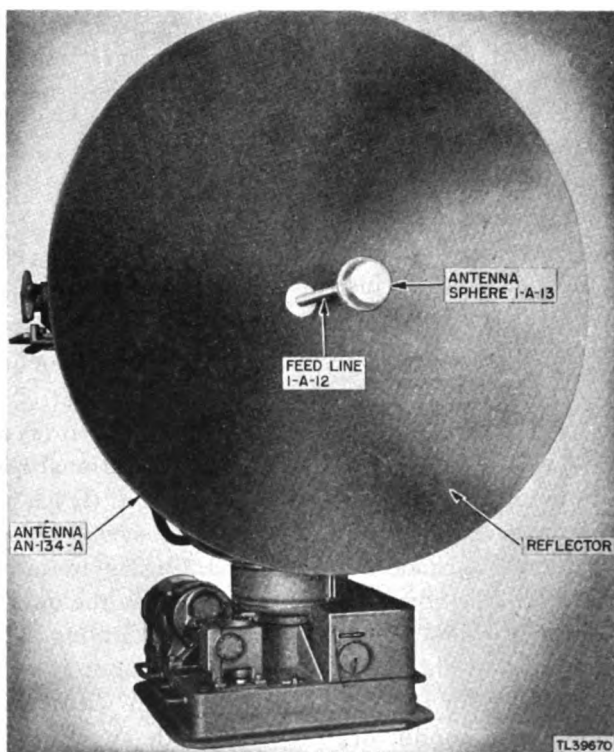
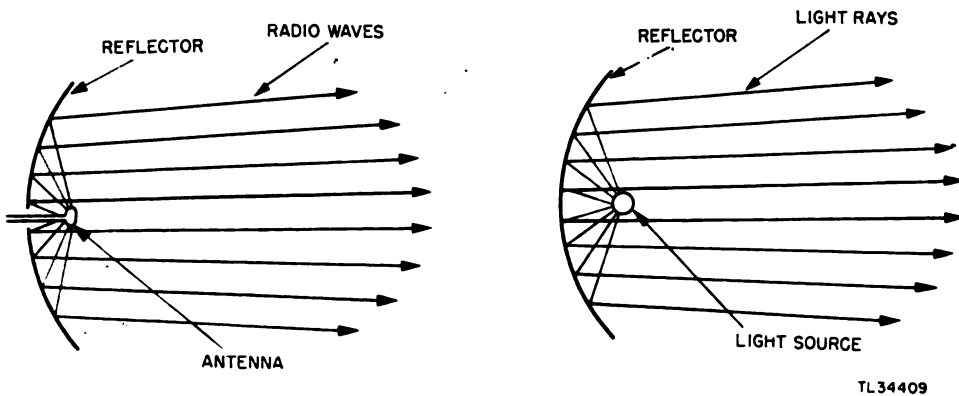

Figure 48. Spinner assembly, front view.
Figure 52. Focusing of microwaves with reflector.
*c. ANTENNA.* The antenna is located in front of the reflector as illustrated in figure 48. The antenna sphere is supported by the r-f transmission line which runs through the center of the reflector. The dipole is placed at the focal point of the parabolic reflector so that the radio beam is focused into a narrower, more powerful beam. This action can be compared to the focusing of light rays by a reflector placed back of the light source, and is illustrated in figure 52.